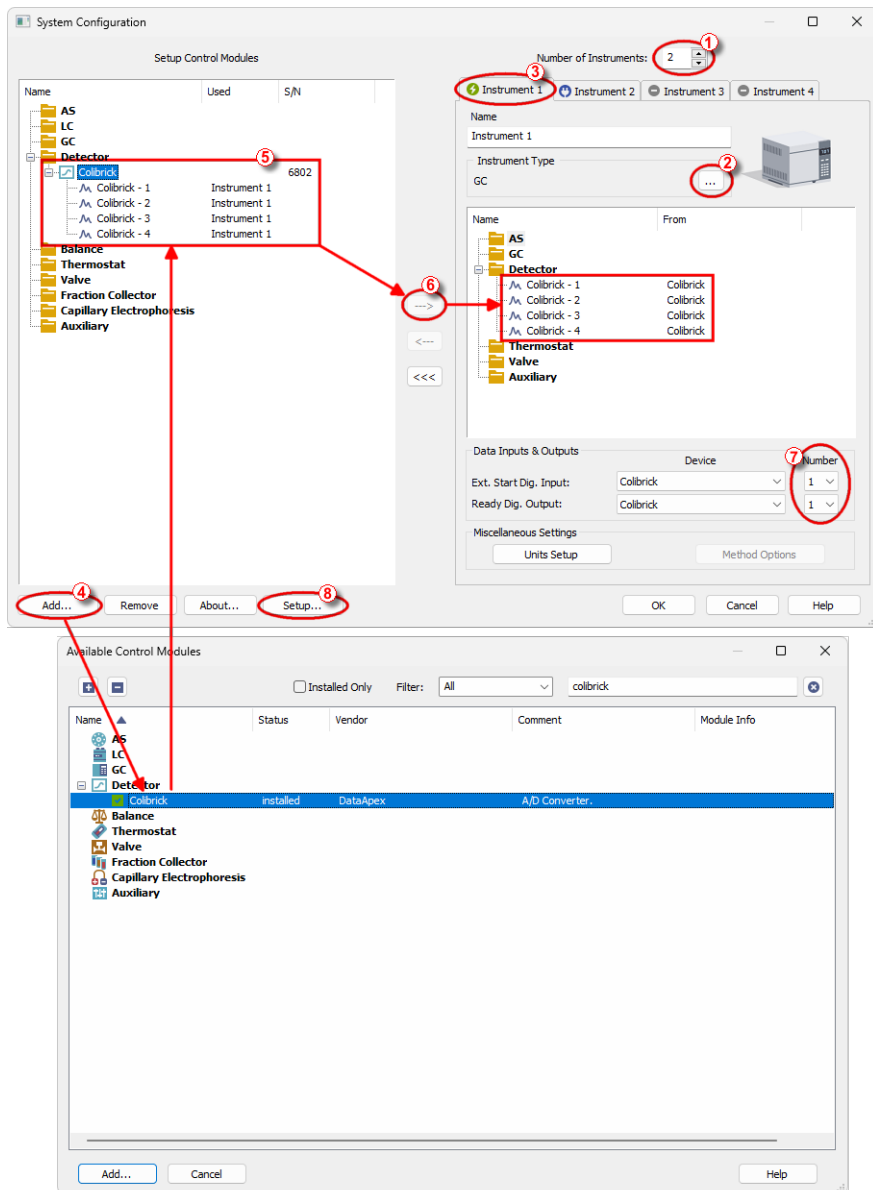

Fig. 5: System Configuration dialog
- Open the **System Configuration** dialog using the *System – Configuration...* command or via the  icon. See **Fig. 5** on pg. **11**.